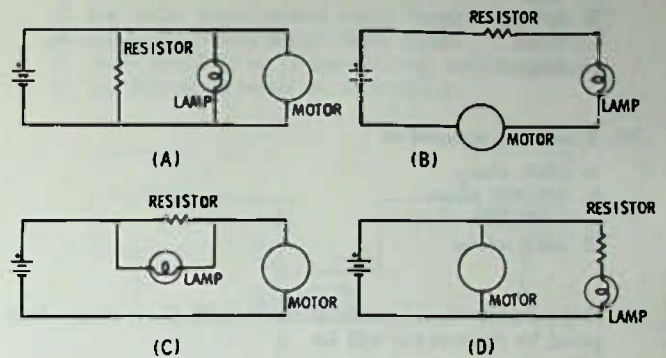

Fig. 2-21. Circuits for Questions 25, 26, and 27.
25. In Fig. 2-21, which circuit is most truly a parallel circuit?
26. In Fig. 2-21, which circuit is most truly a series circuit?